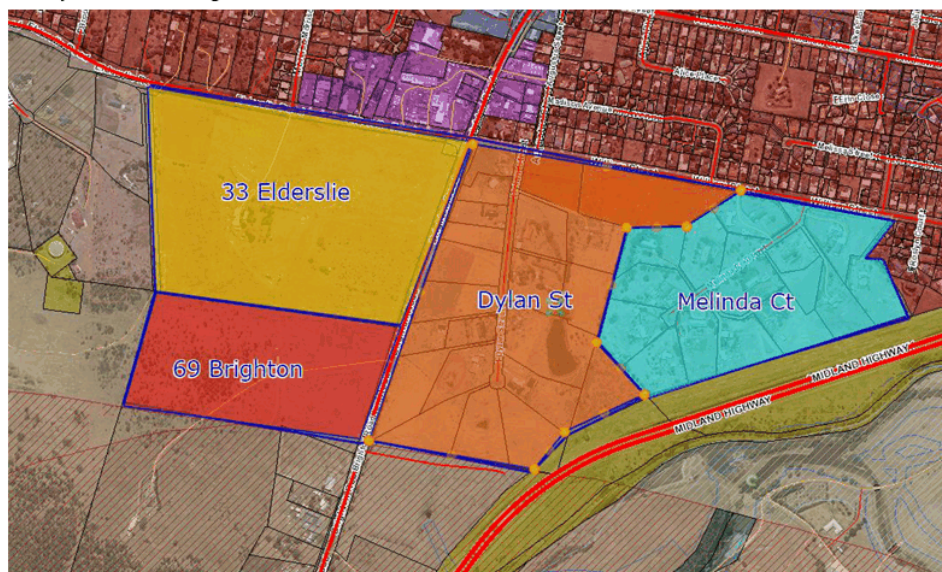

Figure 5: The South Brighton Development Precinct Master Plan area.
- 7.6. In June 2020, Brighton Council, in partnership with DoE, have engaged a consultant to prepare a Master Plan for the South Brighton Development Precinct, which includes the land at 69 Brighton Road (See Figure 5 below). The objective of the Master Plan is: